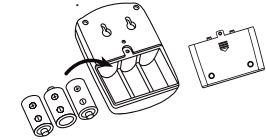

Fig. 5
6. Install three "C" batteries in the receiver. (Fig.5)